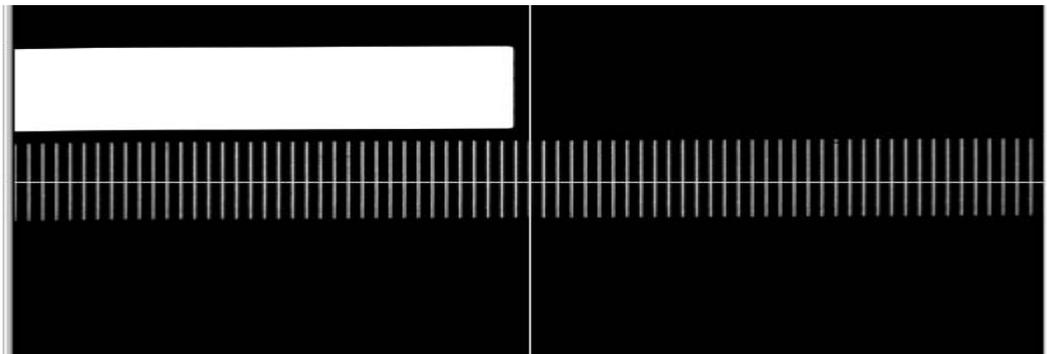

Fig. 5-250 Correct orientation of calibration sample for X scanner calibration
- The calibration standard has to be positioned as indicated in Fig. 5-250.
- After calibration of X-axis the orientation of the calibration grid in the calibration window changes from horizontal to vertical orientation. The second grid of the calibration sample has to be selected and again positioned as indicated in Fig. 5-250.